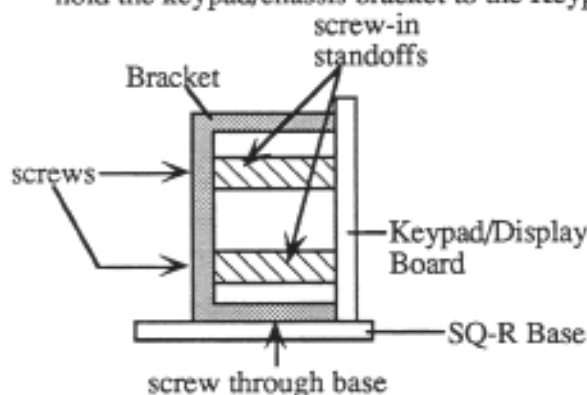
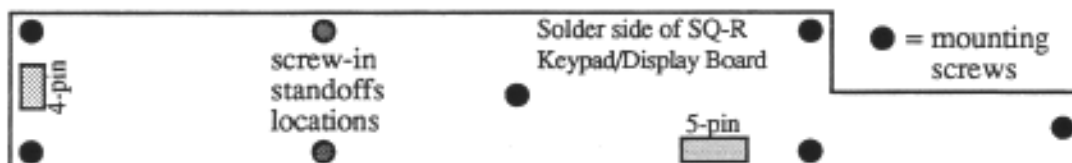

Figure 20 –
Figure 21 — SQ-R Keypad/Display Board Mounting Screw Locations
5. Remove the four (4) 5/64" hex-head screws that hold the front panel in place and carefully remove the front panel assembly.
6. Place the front panel assembly on a soft surface. Remove the two (2) screws that hold the keypad/chassis bracket to the Keypad/Display board (see Figure 20).
7. Remove the two (2) screw-in standoffs that hold the Keypad/Display board to the front panel (see Figures 20 and 21).
8. Remove the six (6) screws that hold the Keypad/Display board to the front panel.
10. Attach the replacement board to the front panel using the six (6) screws (see Figure 21).
11. Attach the two screw-in standoffs where shown in Figure 21.
12. Attach the bracket to the screw-in standoffs using two screws (see Figure 20).
13. Attach the front panel assembly to the chassis with the four (4) hex-head screws.